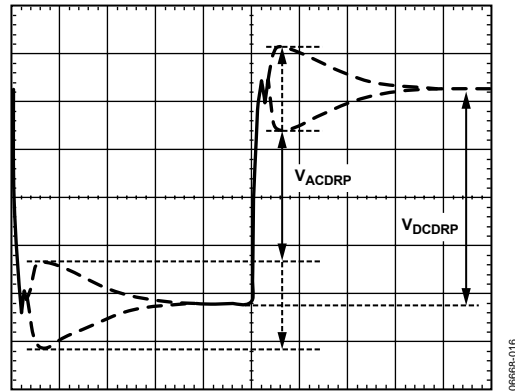

Figure 15. AC Load Line Waveform
14. Measure the output waveform (use dc offset on scope to see the waveform). Try to use a vertical scale of 100 mV/div or finer. This waveform should look similar to Figure 15.
15. Use the horizontal cursors to measure  $V_{ACDRP}$  and  $V_{DCDRP}$ , as shown in Figure 15. Do not measure the undershoot or overshoot that happens immediately after this step.